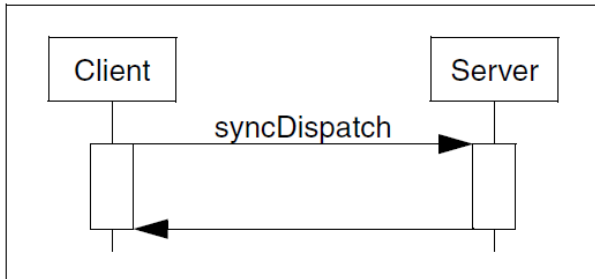

Figure 3.31: Synchronous Command Execution
- `syncDispatch` (see Figure 3.31 [▶ 714]) means the command sending application (in this case Cmd Sender) will wait until the command has been executed and the result is available.